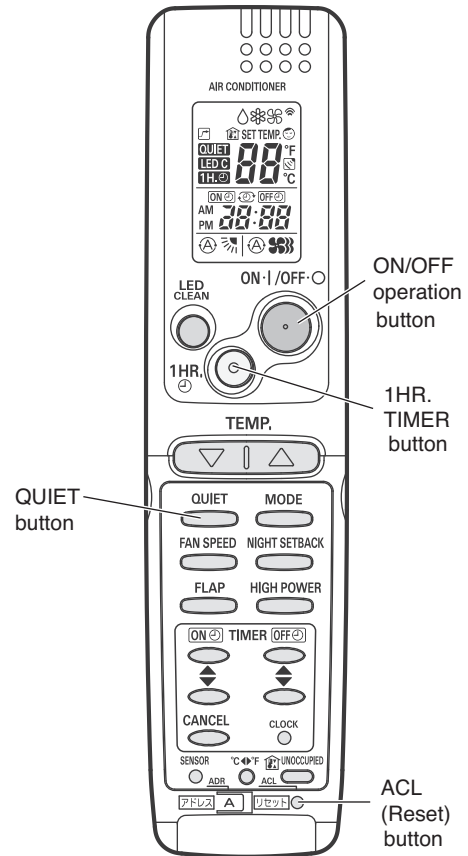

Fig. 59a
(Fig. 59a)
- (2) Start Cooling mode test run by pressing the ON/OFF operation button of the remote controller. (Fig. 59a)
- (3) Press the ON/OFF operation button of the remote controller again to stop the test run. (Fig. 59a)
- (4) Finally press the ACL (Reset) button of the remote controller to release it from Test Run mode to return to normal mode. (Fig. 59a)